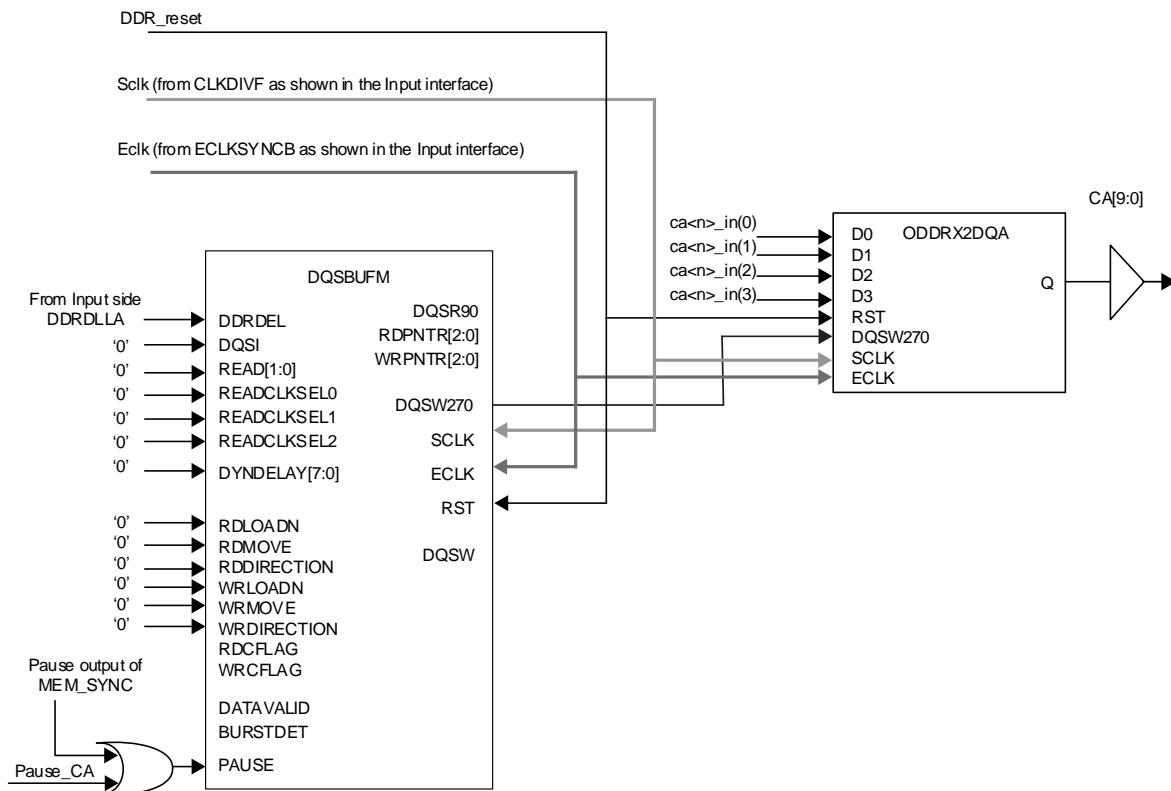
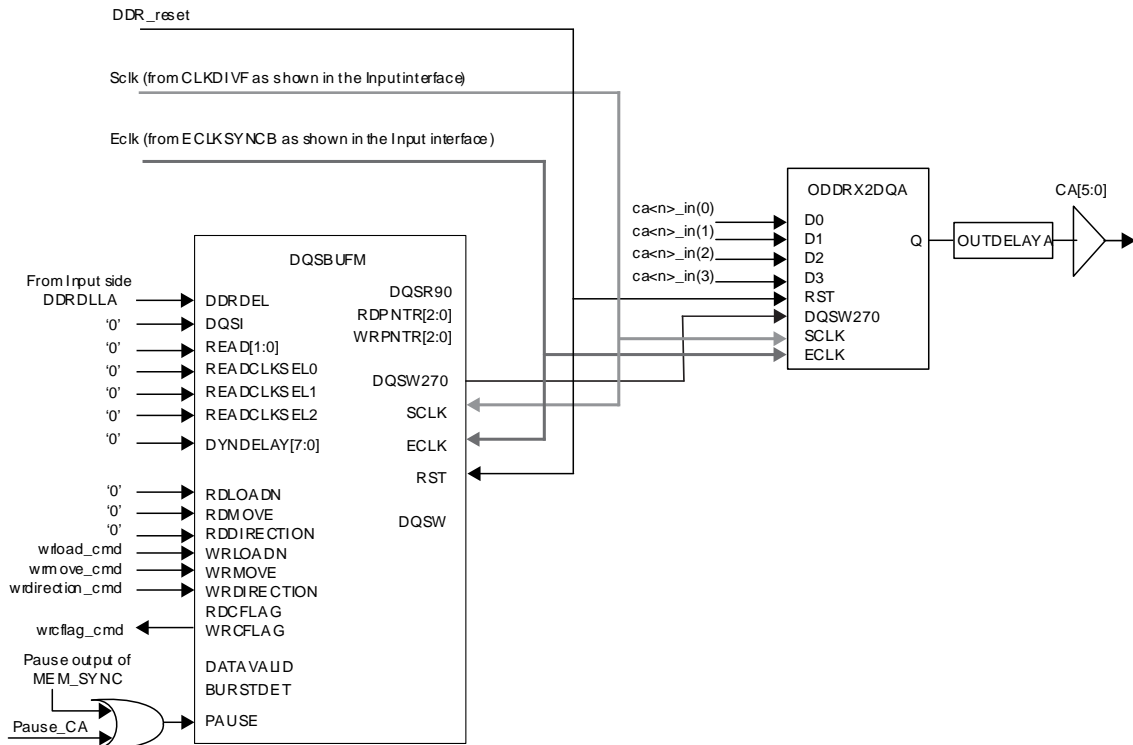

Figure 6.13. LPDDR2 Output for CA Generation
Figure 6.15 LPDDR4 Output Side for CA Generation
- ODDRX2DQA module to generate the CA[9:0](LPDDR2)/CA[5:0](LPDDR4) outputs (Figure 6.13, Figure 6.15 , and Figure 6.16).